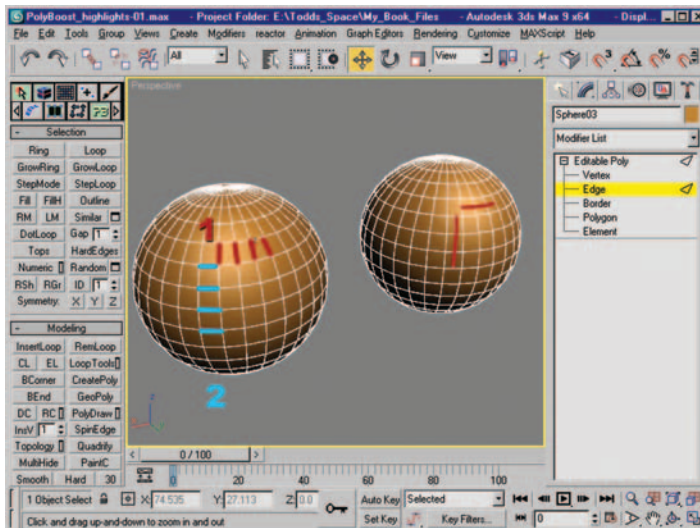

Figure 12.8 Edge selections and resulting new edge configuration after using Connect.
10. Select the two sets of edges seen in Figure 12.8 (left) and use the standard 3ds Max Connect function on one set at a time to create the edge configuration seen in Figure 12.8 (right). The first edge selection is highlighted in red, the second in blue.